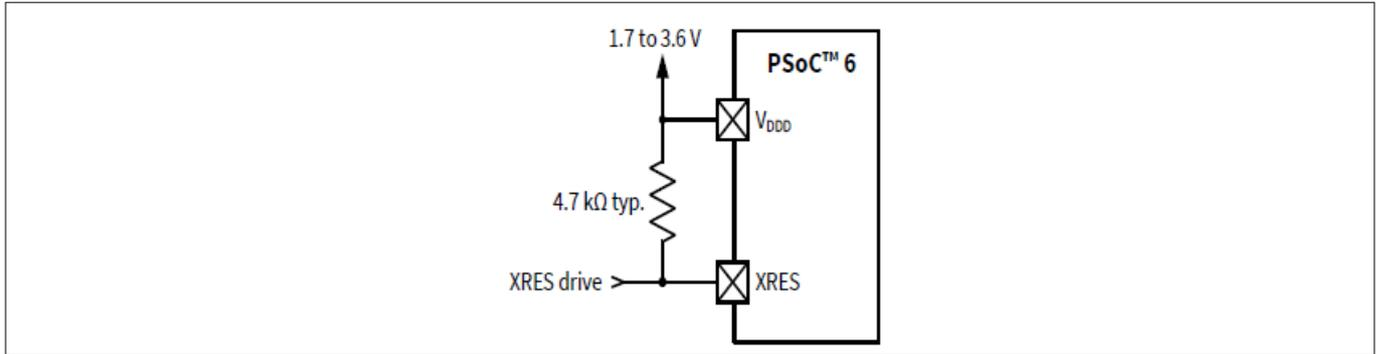

Figure 5 XRES connection diagram
- External reset dedicated pin (XRES) to reset the device using an external source. The XRES pin is active low. It can be connected either to a pull-up resistor to V_{DD} , or to an active drive circuit, as Figure 5 shows. If a pull-up resistor is used, select its value to minimize current draw when the pin is pulled low; 4.7 k Ω is typical.